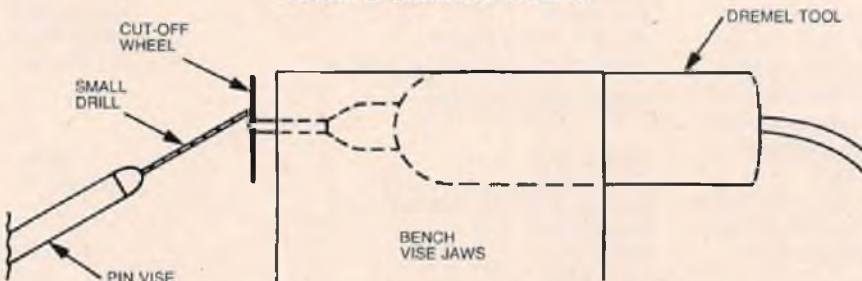

FIGURE 3. DREMEL TOOL USED TO SHARPEN SMALL DRILLS.
For very small drills, under 1/8" (30), hold the drill in a pin vise. The grinding wheel can be a Dremel tool with a cut-off wheel all held in a bench vise. Make a pair of soft wooden jaws to hold the Dremel without damage in the bench vise. See Figure 3.